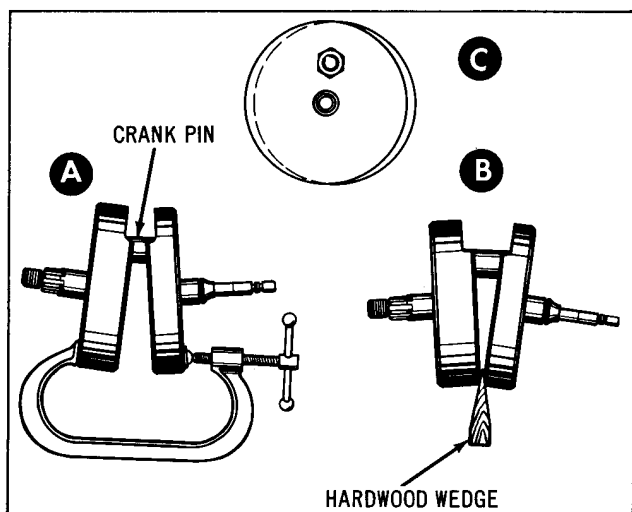

Figure 3-42. Correcting Flywheel Alignment
5. Flywheels may be out of true three ways, A, B and C, Figure 3-42 or a combination of two of the three ways.